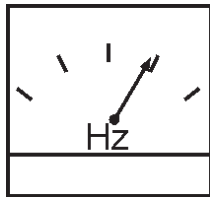

Figure 45. Frequency Meter
- The generator's frequency meter (Figure 45) should be displaying the 50 cycle output frequency in **HERTZ**.